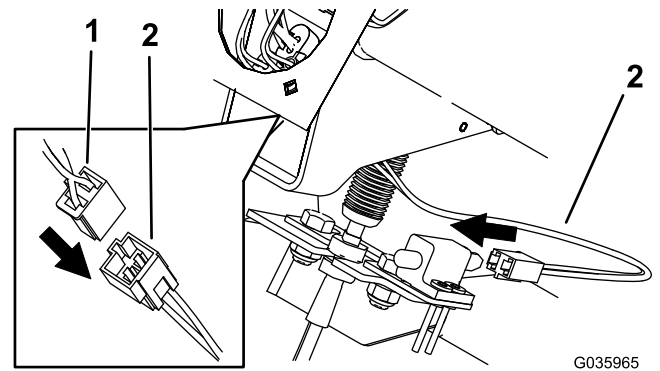

Figure 11
4. Plug the machine wire harness into the clutch extension wire harness (Figure 11).
5. Plug the clutch extension wire harness into the clutch switch (Figure 11).